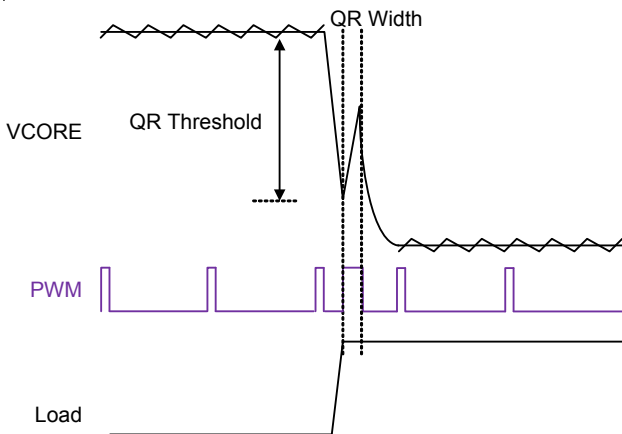
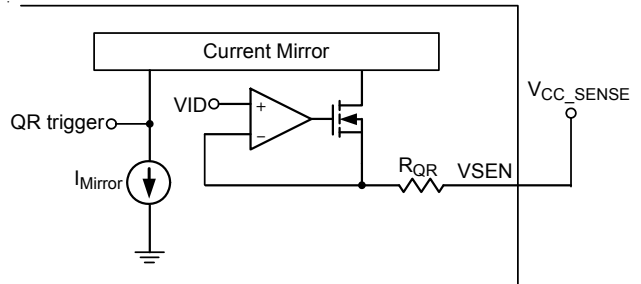

Figure 13. Quick Response Mechanism
Figure 14. Simplified QR Trigger Schematic
**Quick Response (QR) Mechanism**
When the transient load step-up becomes quite large, it is difficult for loop response to meet the energy transfer. Hence, that output voltage generate undershoot to fail specification. The RT8199B has Quick Response (QR) mechanism being able to help improve this issue. It adopts a nonlinear control mechanism which can enlarge the on time of PWM signal at instantaneous step-up transient load to restrain the output voltage drooping, Figure 13 shows the QR behavior.
The output voltage signal behavior needs to be detected so that QR mechanism can be triggered. The output voltage signal is via a remote sense line to connect at VSEN pin that is shown in Figure 14. The QR mechanism needs to set QR width and QR threshold. Both definitions are shown in Figure 13. A proper QR mechanism set can meet different applications. The SET2 pin is a multi-function pin which can set QR threshold, QR width and ICCMAX.